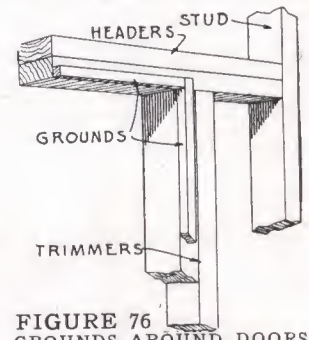

FIGURE 76
- (c) A single ground is also to be nailed up the sides and over the top of all door openings. This ground is to be even with the trimmers at the side and the header at the top (see Figure 76).